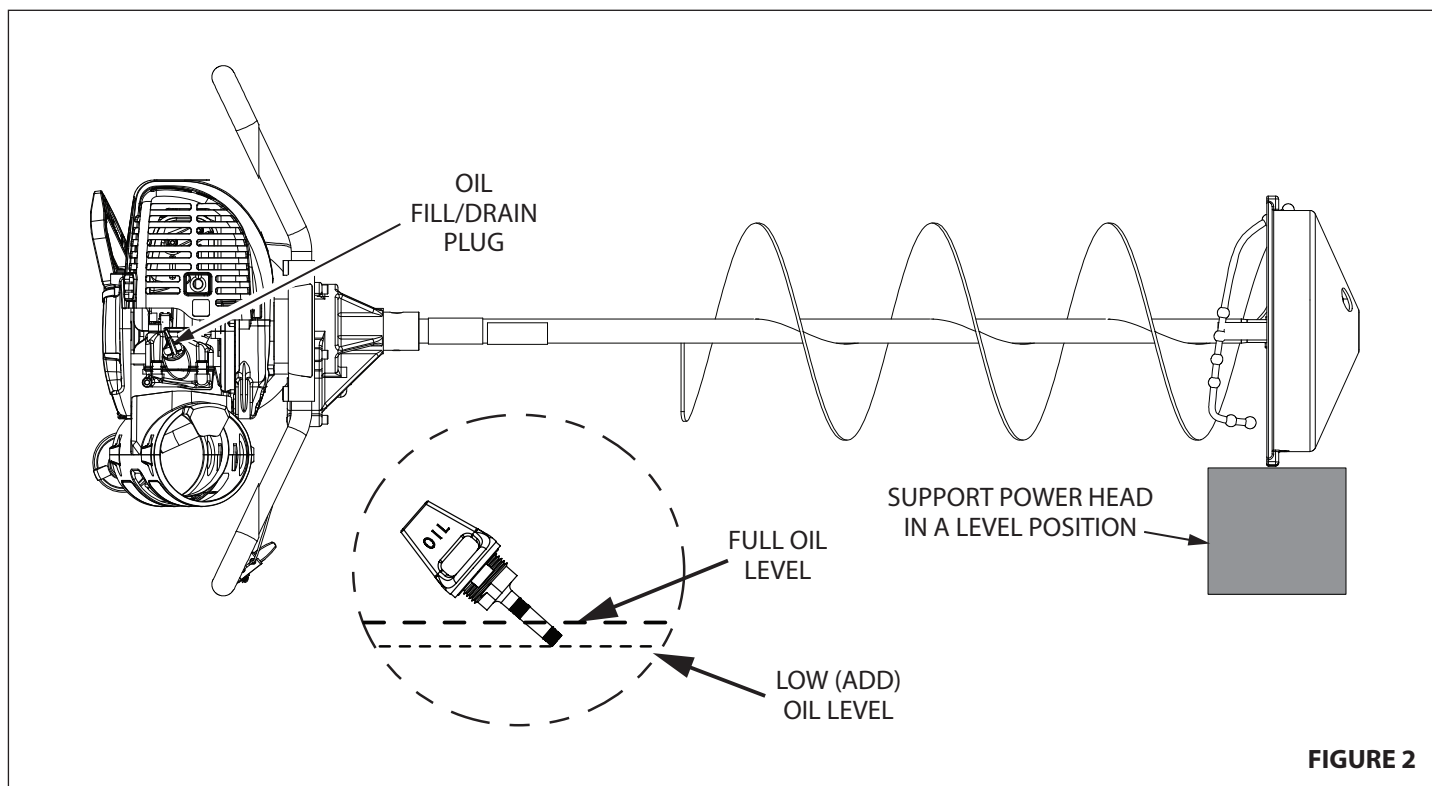

FIGURE 2
1. Place unit horizontally, tank side down, with the auger propped up to make it level. **SEE FIGURE 2**